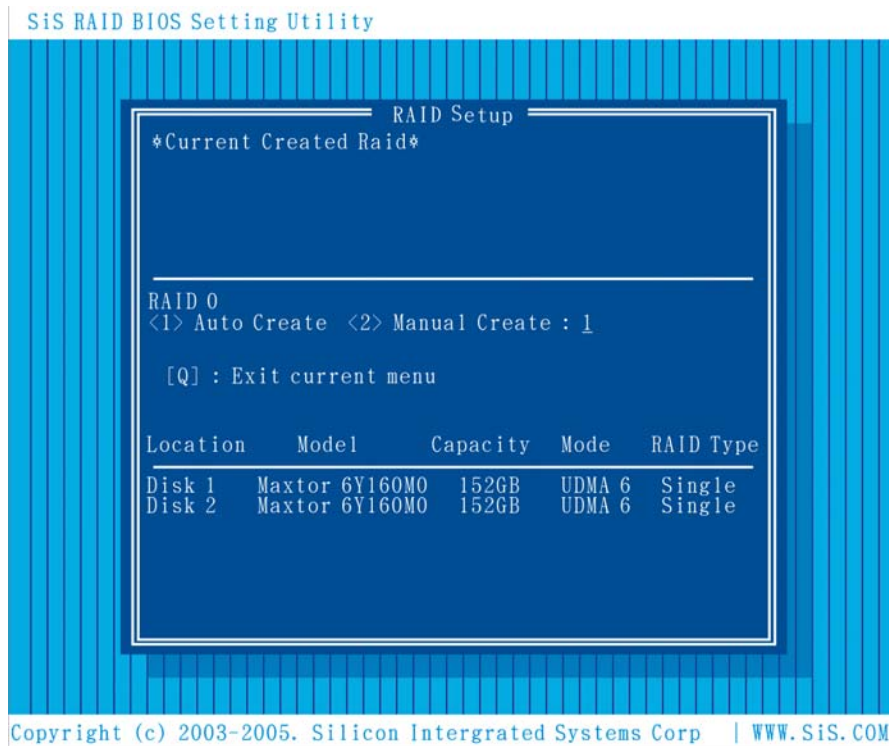

Figure 8-7: RAID 0 Configuration
Step 2: The screen in **Figure 8-7** appears.